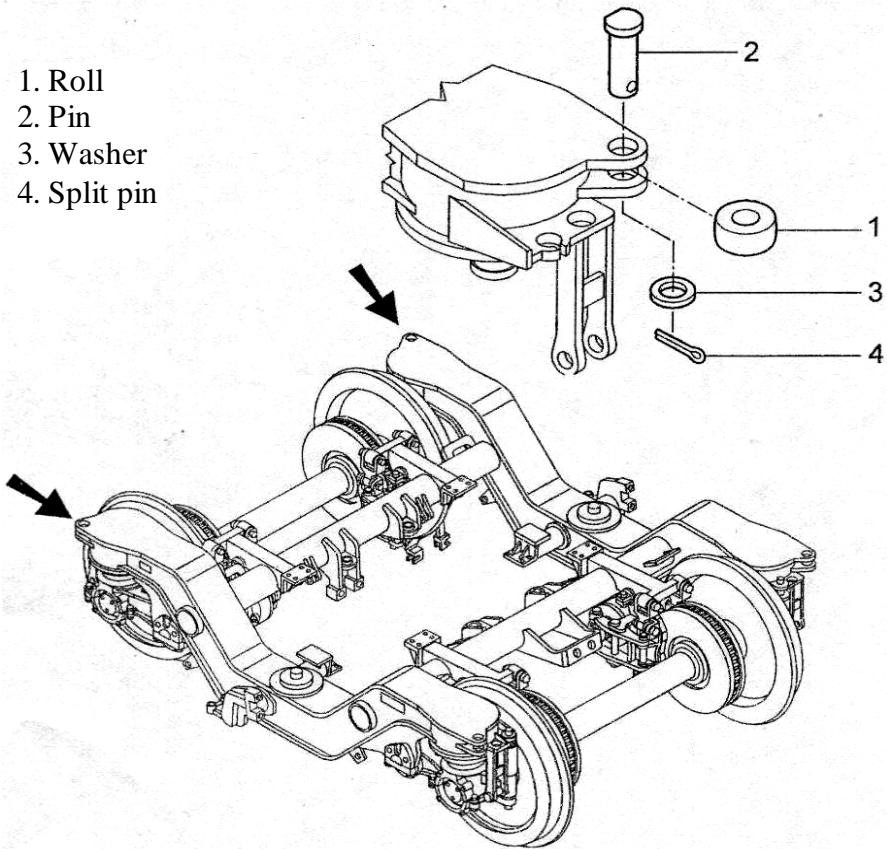

Fig. 3.14 Dismounting Corner Rolls
Remove the two rolls (Fig. 3.14) at the outer corners of the bogie frame: extract the split pin (4) and remove the washer (3) and the pin (2).